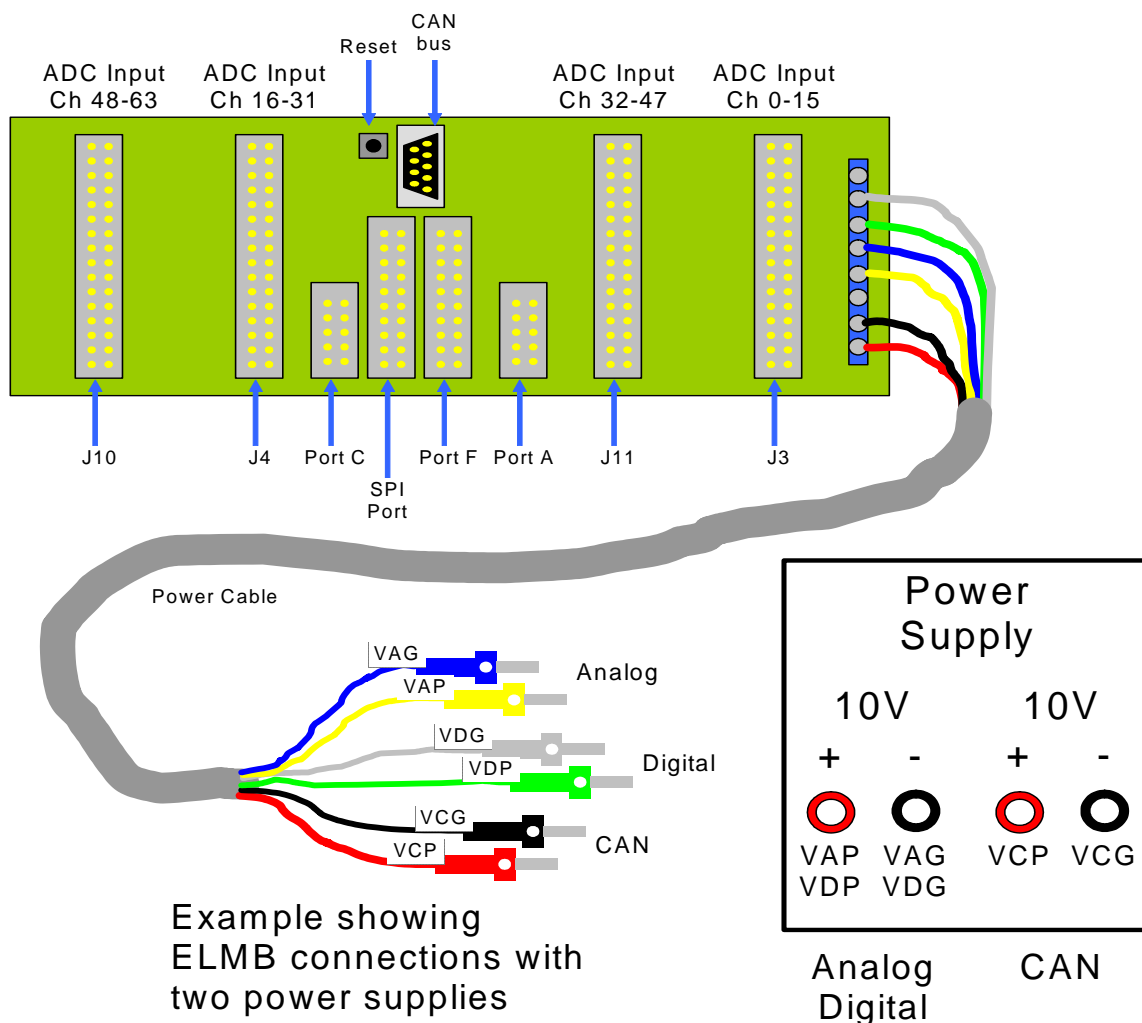

Figure 4: Power connection of the ELMB Motherboard
- A power supply with two outputs, each 10V (see Figure 4)